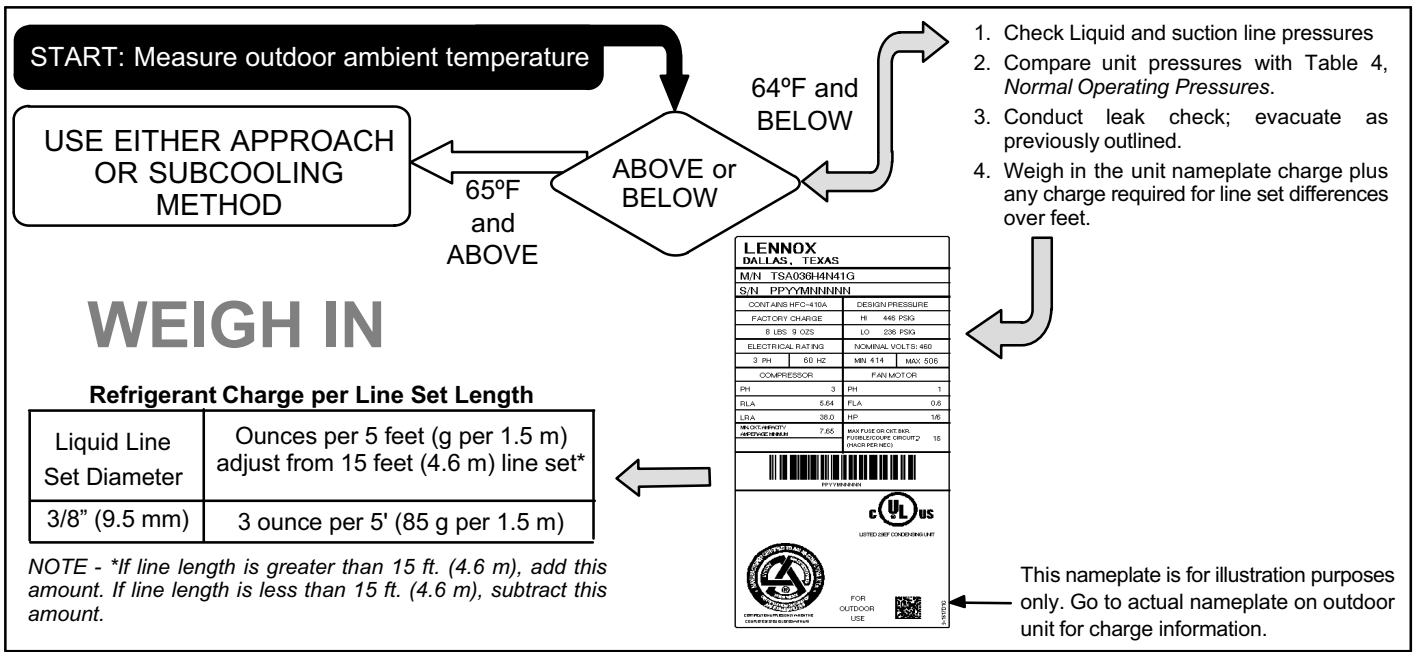

Figure 20. Weigh In Method
5. Weigh in refrigerant using procedure outlined in figure 20.